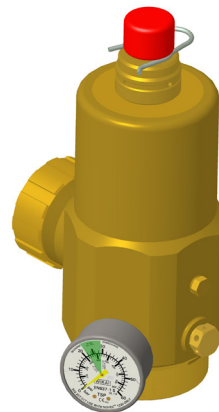

FIGURE 6-30
3. Carefully screw the manual actuator to the top of the electrical actuator or directly onto the master container valve. See Figure 6-30.